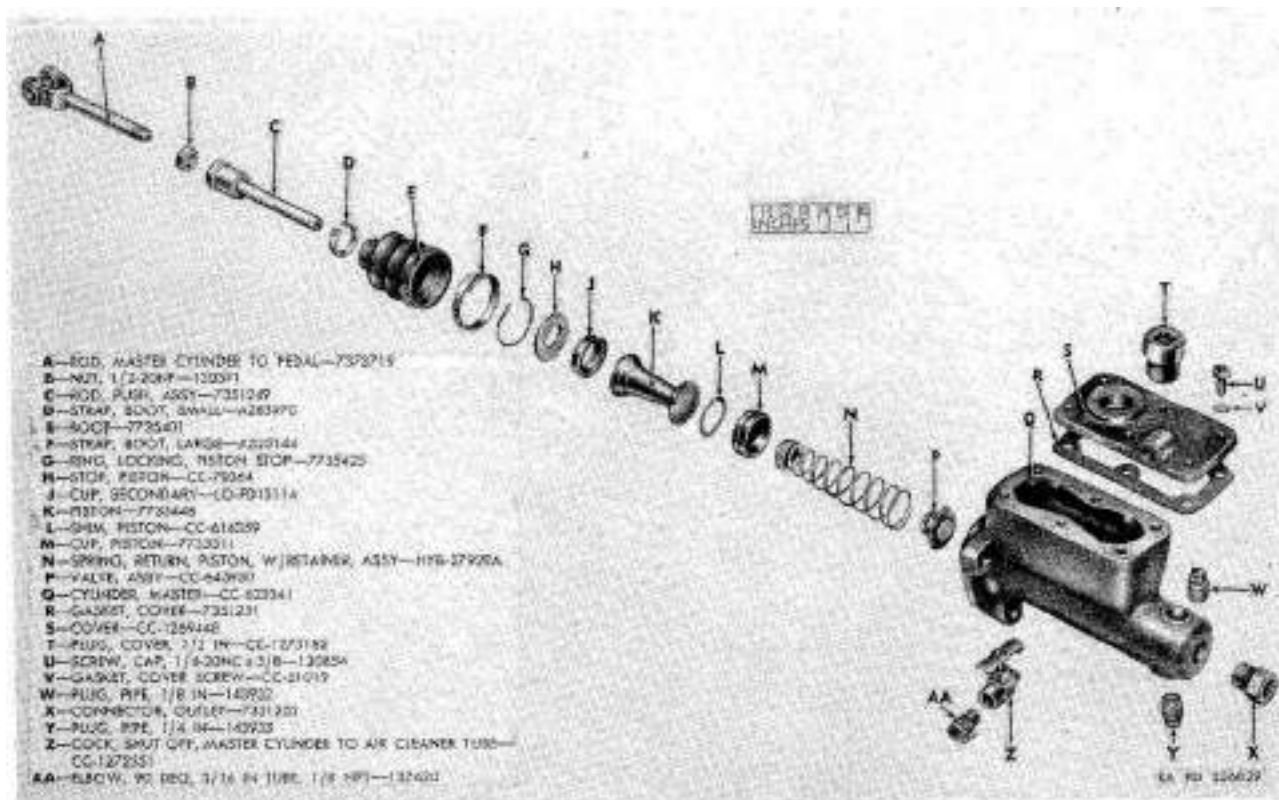

Figure 155. Master cylinder—exploded view.
(fig. 155)
Note. The key letters noted in parentheses are in figure 155, except where otherwise indicated.
a. *Inspection (fig. 155).*
- (1) Inspect master cylinder (Q) for wear, corrosion, or cracks.